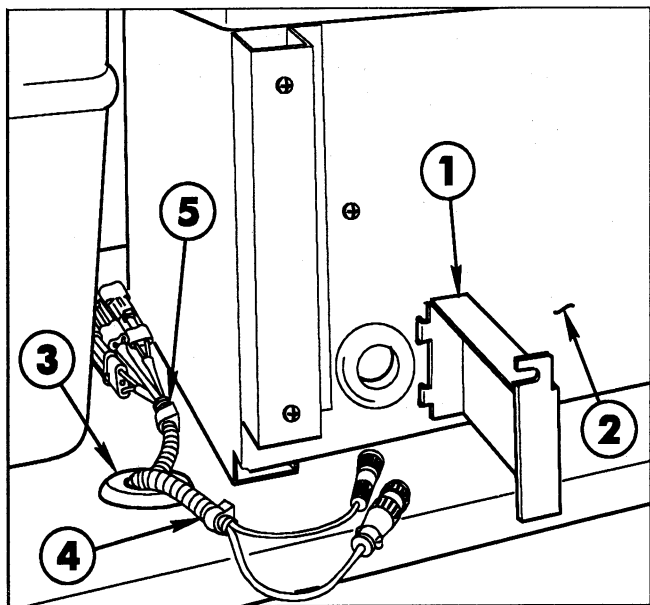

Fig. 3
3. Loosen the screw and remove the cover plate on the back of the Injection Pump Housing. See Fig. 3.